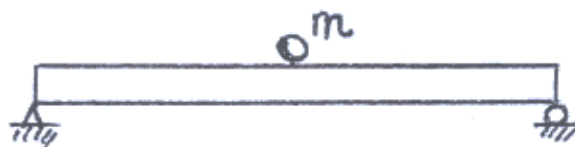

Fig. 3
3. A Bernoulli-Euler beam subjected to a block of mass m at the mid-span is shown in Fig. 3. The beam has Young's modulus E , length L and moment of inertia I . The axial displacement u is expressed as $u = -y \frac{dw}{dx}$, where w is the transverse deflection.